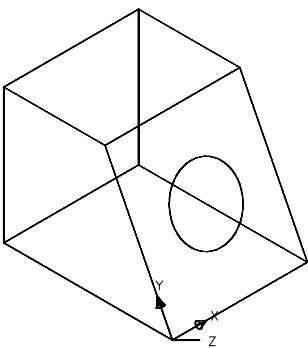

Figure 24-25 Final model for Example 1
8. The final model should look similar to the one shown in Figure 24-25.